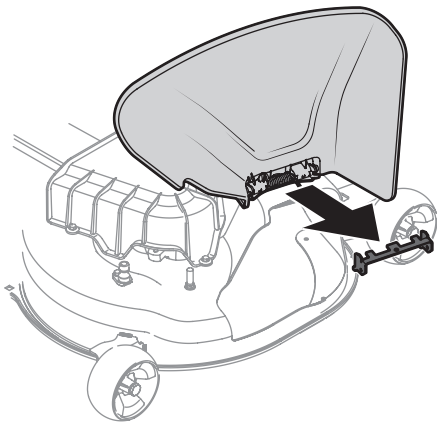

Figure 10
- Holding the chute deflector fully upward, remove the stop bracket. Lower the chute deflector and discard the stop bracket. See Figure 10.